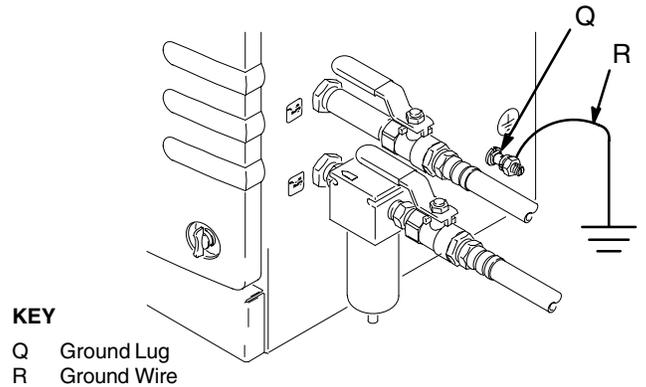

Fig. 6
14. Ground the system. See Fig. 6.
- a. Connect the ground wire (R) supplied to the ProMix control ground lug (Q). See Fig. 6. Connect the ground wire clamp to a true earth ground as defined in your local code.